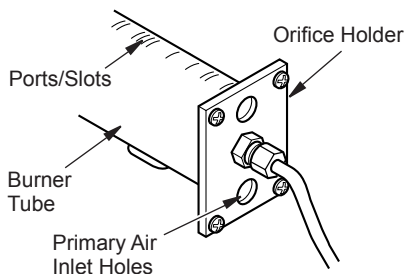

Figure 38 - Orifice Holder On Outlet Burner Tube
2. Inspect burner, pilot and primary air inlet holes on orifice holder for dust and dirt (see Figure 38).